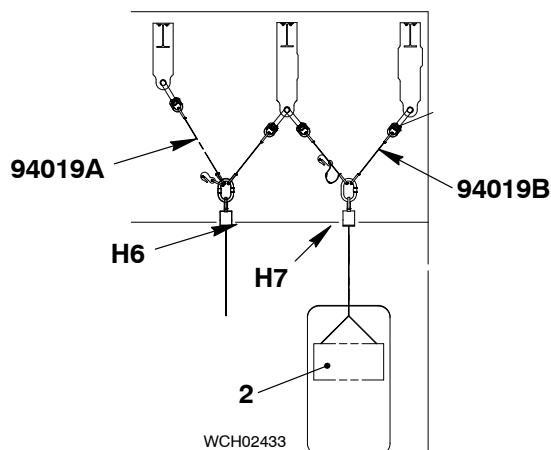

Fig. 7
- 4) Install the four eye bolts (94045-M8) into the bearing shell (2).
- 5) Attach the chain (94327) to the manual ratchet (H5) and the four eye bolts in the bearing shell (2).
- 8) Remove the two screws (1).
- 9) Operate carefully the manual ratchet (H2) and the chain block (H5) to lift the bearing shell (2) from the connecting rod.
- 10) Continue to operate the manual ratchet (H2) and the chain block (H5) to remove the bearing shell (2) from the engine.
- 11) Lower the bearing shell (2) on to an applicable surface.
- 13) Use the chains (94019A and 94019B, Fig. 7) and the two chain blocks (H6, H7) to move the bearing cover (1) to an applicable area.
- 14) Remove the four eye bolts (94045-M8) from the bearing cover (2).